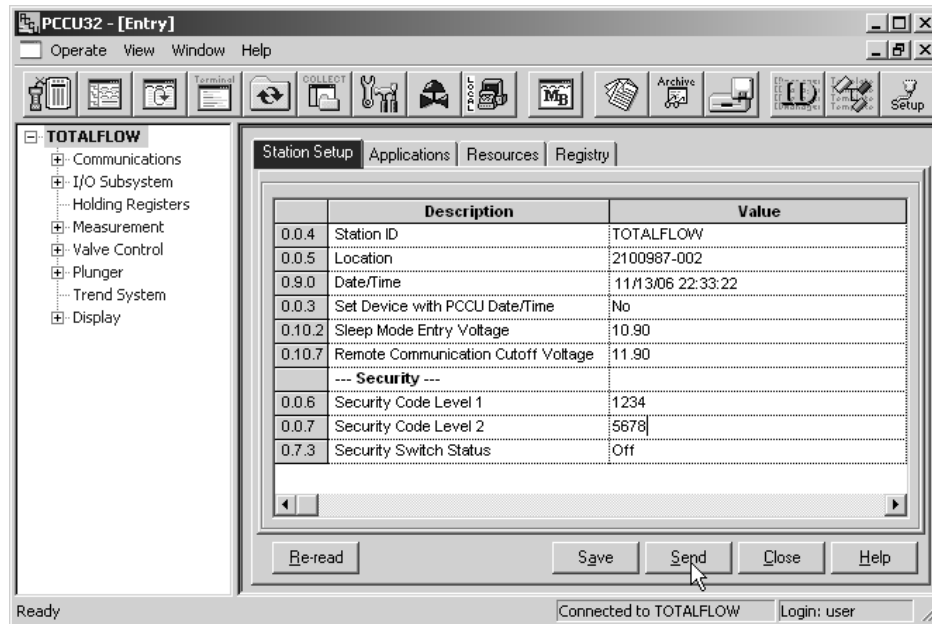

Figure 71 Meter Setup and Security Screen
7. Enter a four digit number for level 1 and level 2 security codes, in the **Station Setup** tab. (see Figure 71).